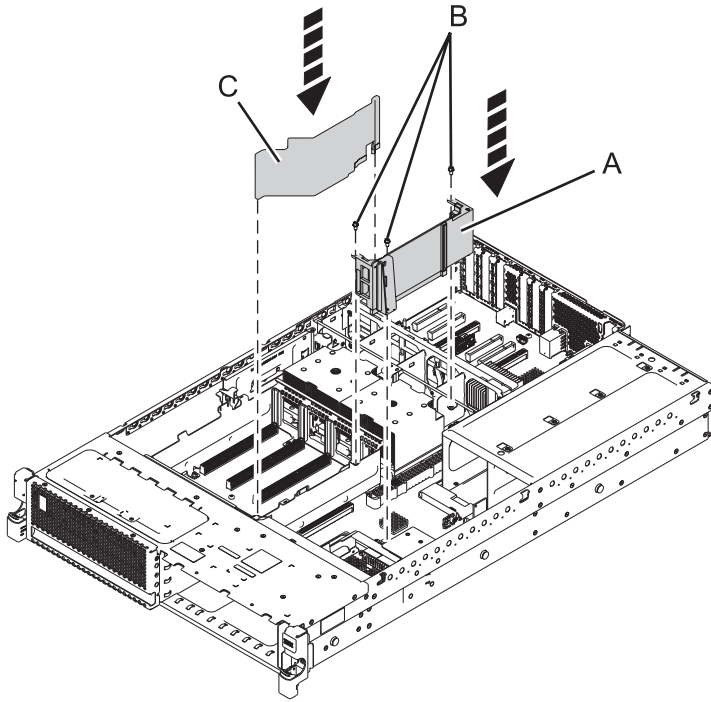

Figure 14. Replacing the voltage regulator guide air divider
- a. Lower the voltage regulator guide (A) into place and tighten the three screws (B) that secure it in place. See Figure 14 on page 18.
- b. Lower the air divider (C) into place.